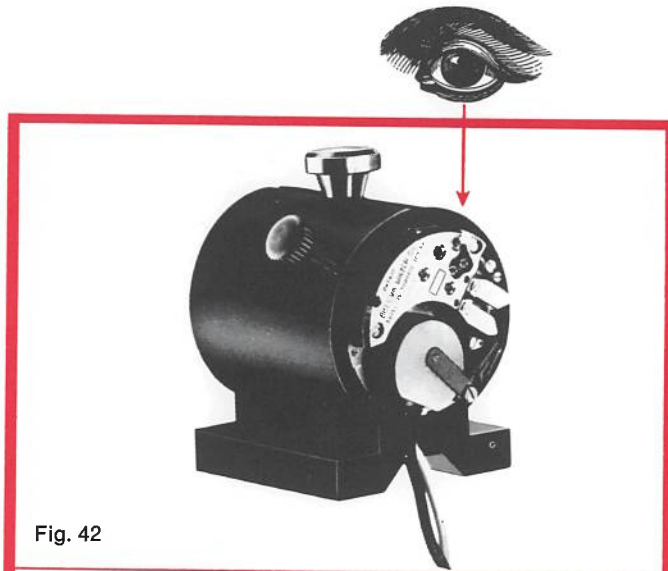

Fig. 42
1. Make sure stem is pushed "in" (running position). For proper sighting of fingers under microscope, place movement in the movement holder and stand holder on end. (See fig. 42). Check fingers in horizontal position—sighting through edge of movement at index wheel position.